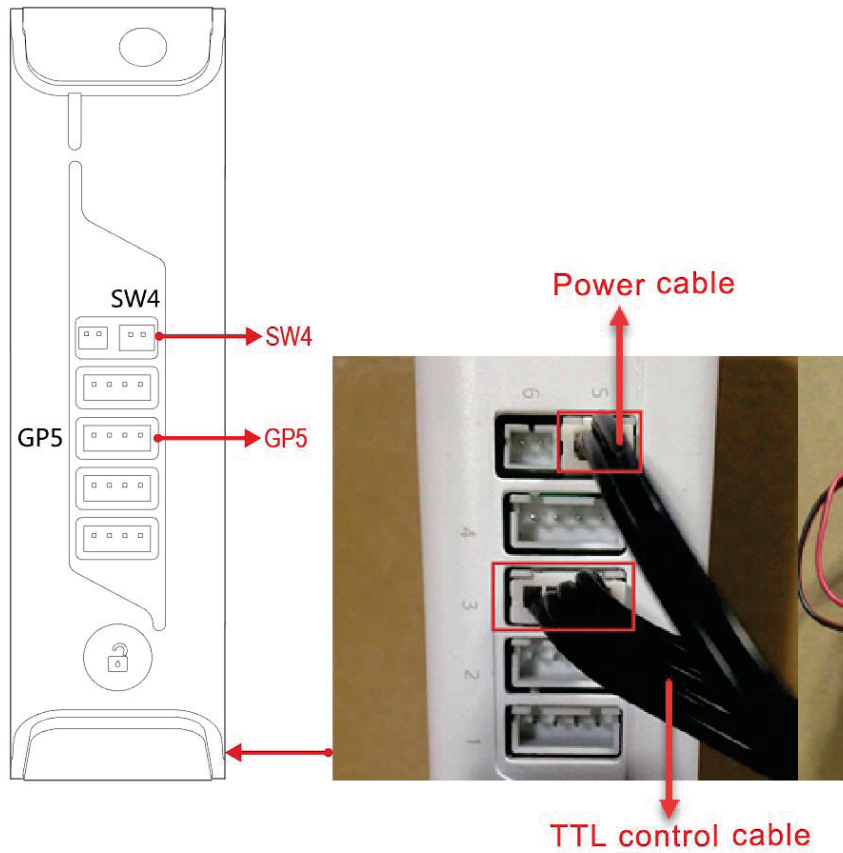

Figure 5.60 Connect the laser to the SW4 and GP5 connectors
Step 2 Connect the laser's power cable to the **SW4** connector on the Forearm and the TTL control cable to the **GP5** connector, as shown in Figure 5.60.